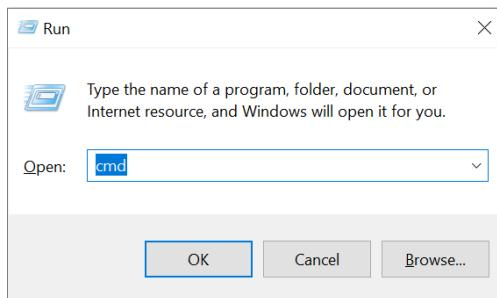

Figure 3.8: Launching the Command Prompt on Windows
1. Launch the Command Prompt. Press the Windows key+R together. A window, as shown in Fig. 3.8 appears. In the text box adjacent to Open, type cmd, and press Enter. The Command Prompt, as shown in Fig. 3.9 appears. By default, it points to the home di-
1. Launch the Command Prompt, as shown in Fig. 3.8.